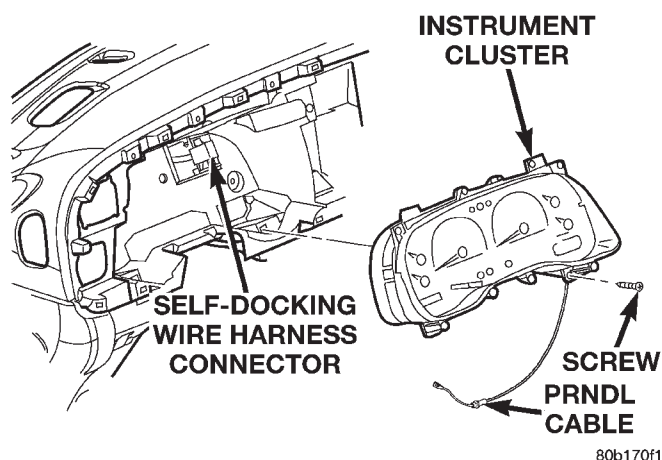

Fig. 4 Instrument Cluster Remove/Install
(1) Remove the cluster bezel from the instrument panel. See Cluster Bezel in the Removal and Installation section of this group for the procedures.
(2) Remove the four screws that secure the instrument cluster to the instrument panel (Fig. 4).